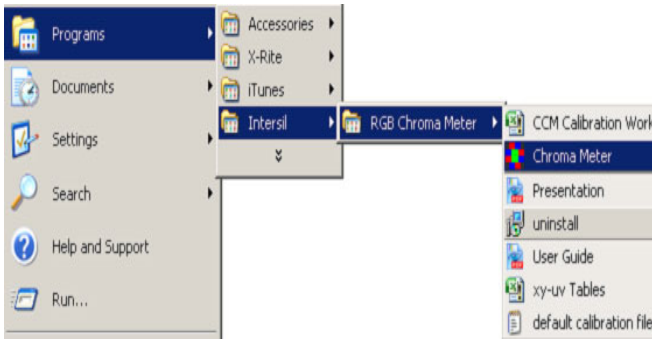

FIGURE 8. INSTALLATION READY TO INSTALL SCREEN
- B) **Launching the RGB GUI** - Once the installation is complete, click "Finish" to launch the RGB GUI. If you wish to launch from your PC desktop, use the path shown in Figure 8. (Start → Program → Intersil → RGB Chroma Meter → Chroma Meter.
3. To open the CCM Worksheet, go to the “Start” menu, (Start → Intersil → RGB Chroma Meter → Chroma Meter → CCM Worksheet). The CCM Worksheet contains the coefficient for the specific evaluation board (Figure 8, but choose CCM Worksheet Excel).